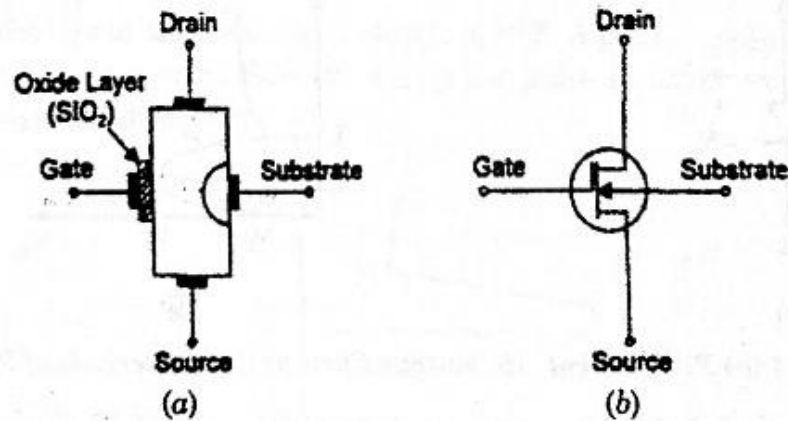

Fig. 1.46. n-Channel MOSFET
An n-channel MOSFET is shown in fig. 1.46.(a). It shows its constructional detail. Its construction details are similar to the FET except with the following modification.
- (ii) On the left side of the channel, a thin layer of metal oxide (usually silicon dioxide SiO_2) is deposited. A metallic gate is deposited over silicon dioxide layer as shown in fig. 1.46 (a). The gate is insulated from the channel since silicon dioxide is an insulator. Because of this it is also known as insulated gate FET.